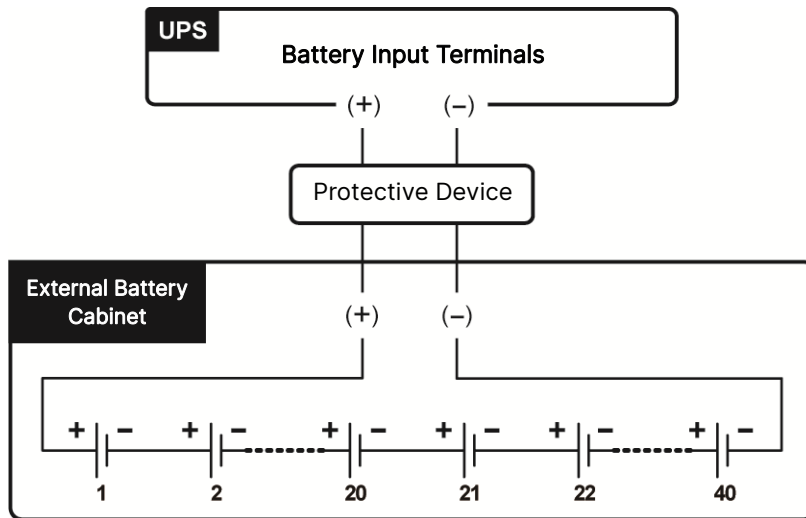

Figure 5-19: External Battery Cabinet Connection
- To connect the external battery cabinet(s) to the UPS, please refer to **5.4 Wiring** and **Figure 5-19**.